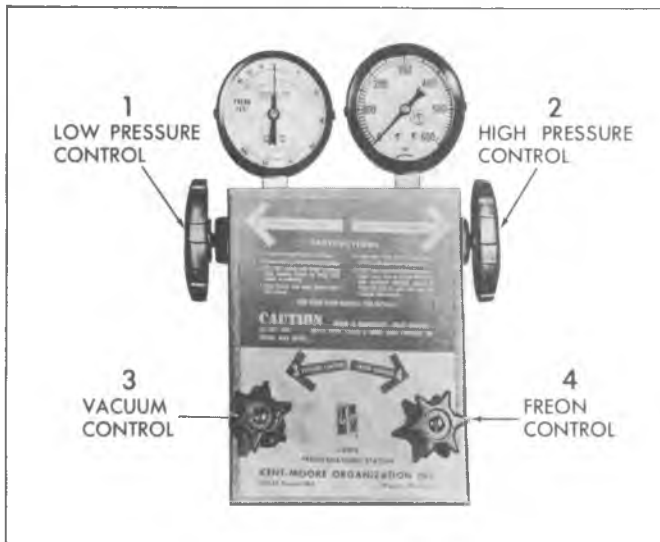

Fig. 22—Charging Station Gauge Set
The gauge set (fig. 22) is an integral part of the J-8393 Charging Station. It is used when purging, evacuating, charging or diagnosing trouble in the system. The gauge at the left is known as the low pressure gauge. The face is graduated into pounds of pressure and, in the opposite direction, in inches of vacuum. This is the gauge that should always be used in checking pressures on the low pressure side of the system. When all parts of the system are functioning properly the refrigerant pressure on the low pressure side never falls below 0 pounds pressure. However, several abnormal conditions can occur that will cause the low pressure to fall into a partial vacuum. Therefore, a low pressure gauge is required.
6. See Figure 22. Turn high pressure control (2) one turn counter-clockwise (open). Crack open low pressure control (1) and allow refrigerant gas to hiss from low pressure gauge line for three seconds, then connect low pressure gauge line to low pressure gauge fitting.